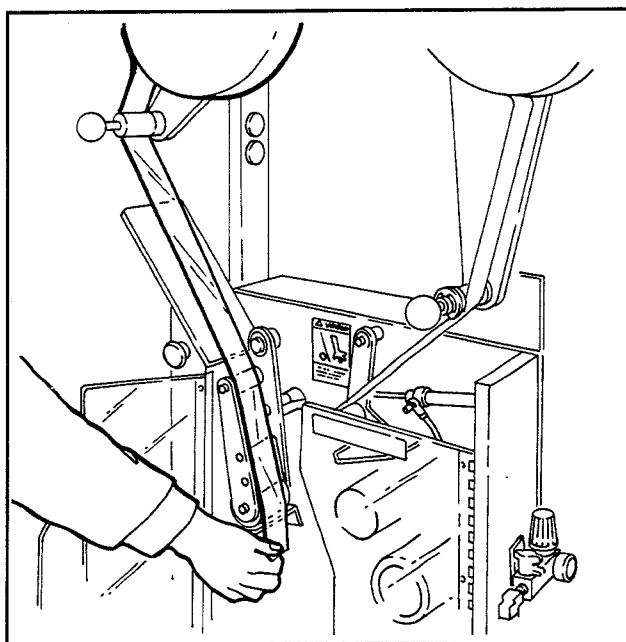

Figure 3-5 – Operation
4. Open left door, pull "standby" tape around turret roller, through tape holder, and trim off excess tape on cut-off blade. Figure 3-5.